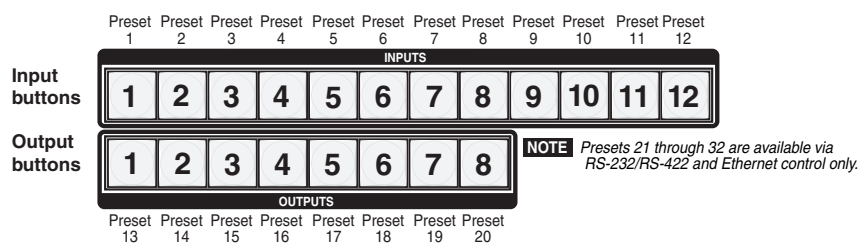

Figure 3-39 — Preset locations
- Figure 3-39 shows the presets associated with the various input and output buttons for the MVX Plus 128 VGA A.